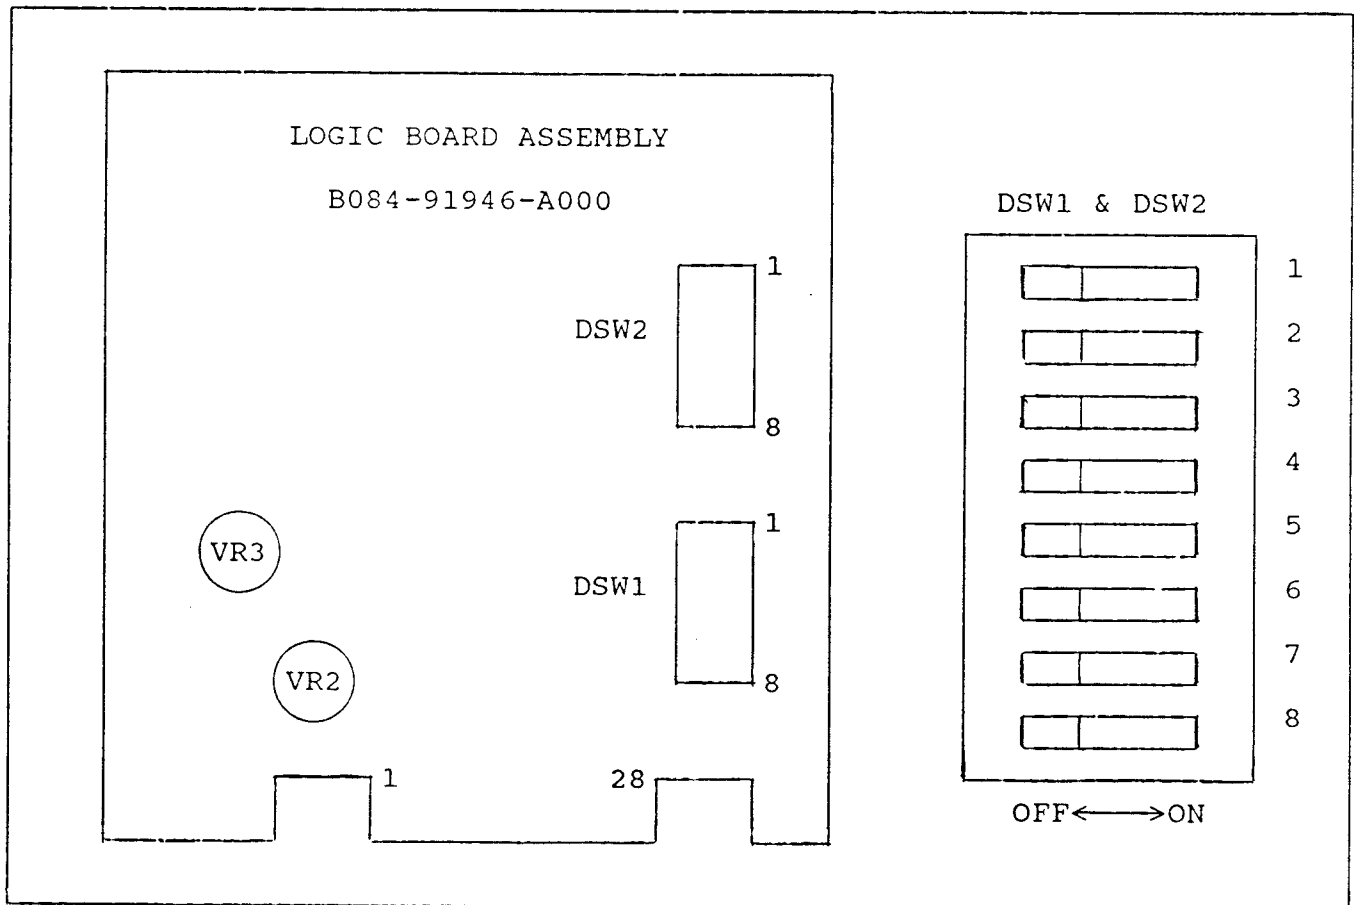

FIGURE 1 - LOGIC BOARD ASSEMBLY REFERENCE ILLUSTRATION
- o Figure 1 on page 15.
- Step D - Install the new controls, supplied in the Kit, to the newly modified Control Shelf as shown in Figure 1 on page 20 and Figure 2 on page 21.
- C. Referring to Figure 1 - LOGIC BOARD REFERENCE DRAWING on page 10 and the OPTION SWITCH SETTINGS on page 11 & 12, ensure that the DIP Switches DSW1 and DSW2 are set to the Factory Recommended Settings.
Note that neither of the connectors are "keyed". Referring to Figure 1 on page 15, the number "1" appears at the left end of the edge connector on the component side of the Logic Board Assembly. On the solder side of the Logic Board, letters are used as pin numbers. For additional information, see the Wiring Chart on page 23.
There are two (2) Volume Control variable resistors located, along with two (2) Option DIP (Dual-In-Line Package) switches on the Logic Board Assembly. To locate the resistors and DIP switches, see FIGURE 1 - LOGIC BOARD ASSEMBLY REFERENCE ILLUSTRATION.
2. THE DUAL-IN-LINE PACKAGE (DIP) SWITCHES "DSW2" IS LOCATED ON THE LOGIC BOARD ASSEMBLY AS SHOWN IN FIGURE 1 ON PAGE 10.
2. THE DUAL-IN-LINE PACKAGE (DIP) SWITCH "DSW2" IS LOCATED ON THE LOGIC BOARD ASSEMBLY AS SHOWN IN FIGURE 1 ON PAGE 10.